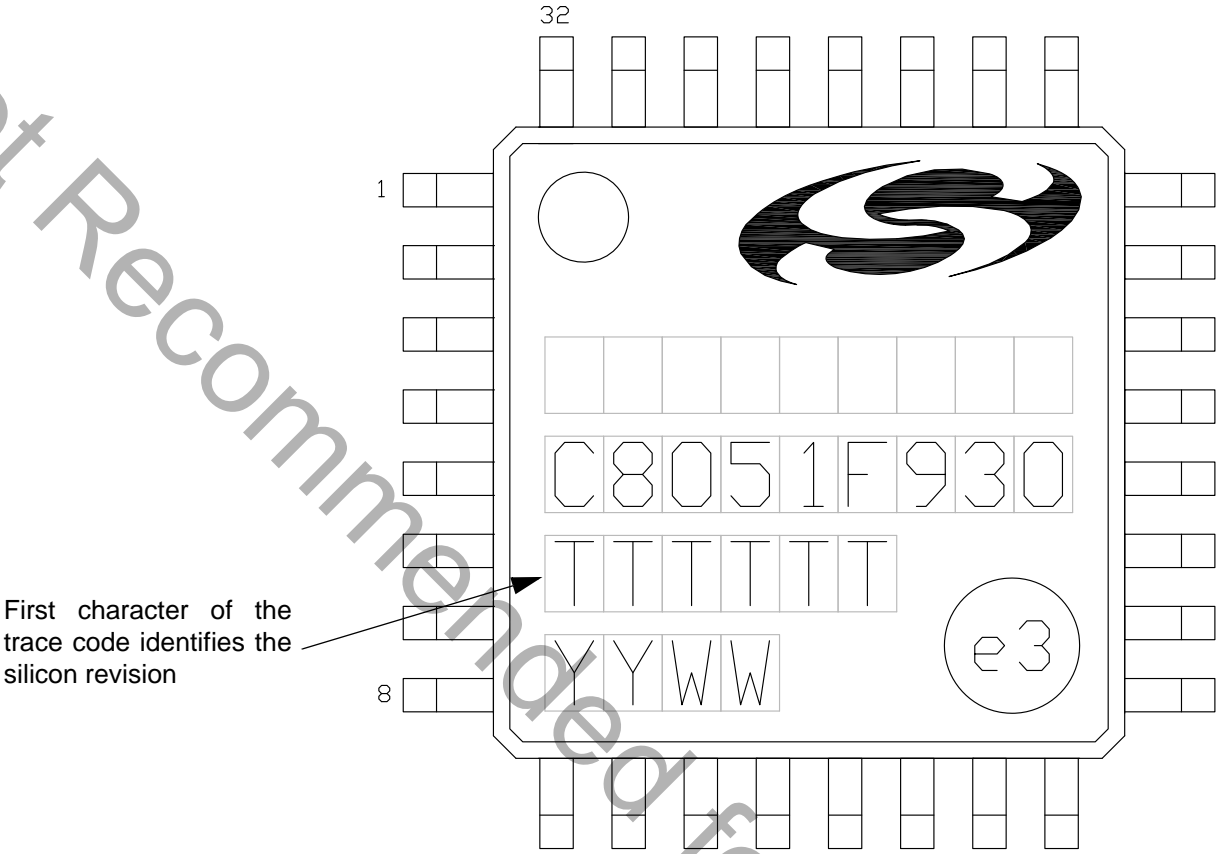

Figure 3.6. LQFP-32 Package Marking Diagram
***Note:** Starting with silicon revision F, the ordering part numbers have been updated to include the silicon revision and use this format: "C8051F930-F-GM". Package marking diagrams are included as Figure 3.4, Figure 3.5, and Figure 3.6 to help identify the silicon revision.